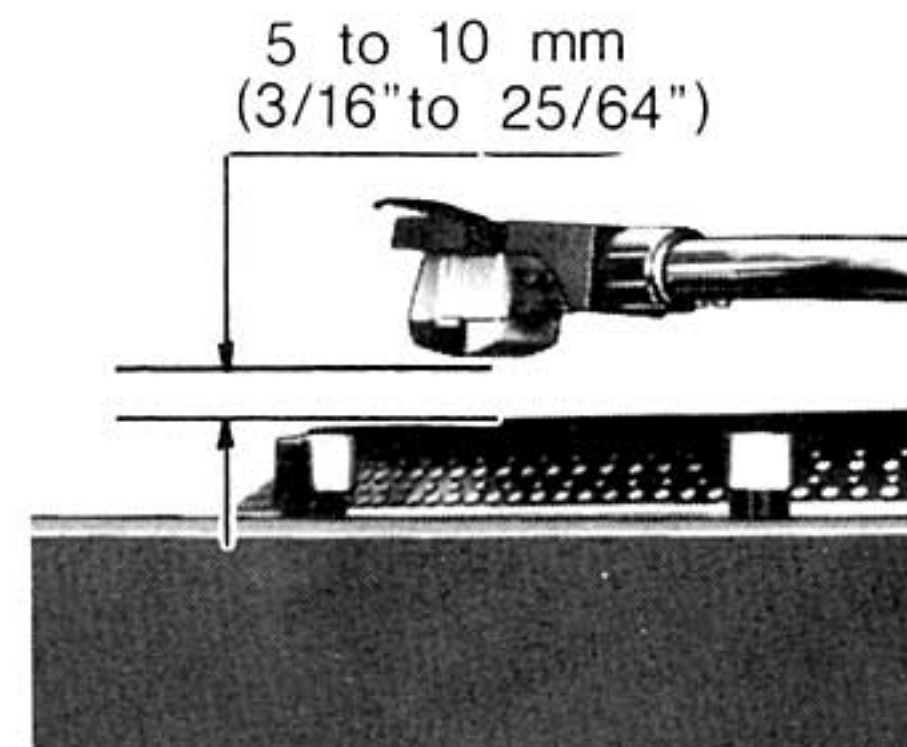

Figure 15
- 1 ADJUSTMENT OF THE ARM LIFT HEIGHT. (See Figs.15 and 16)